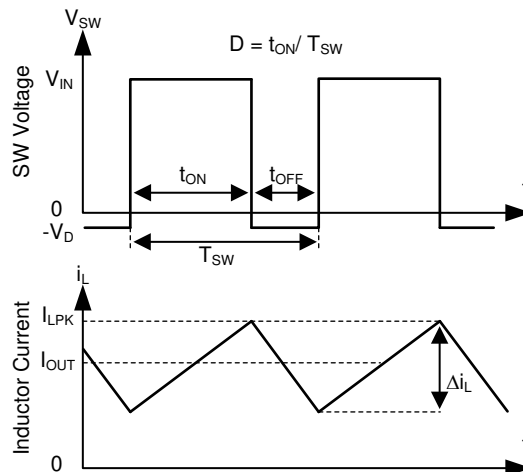

Figure 10-1. SW Node and Inductor Current Waveforms in Continuous Conduction Mode (CCM)
The following operating description of the TPS25830-Q1, TPS25831-Q1 will refer to the *Functional Block Diagram* and to the waveforms in *Figure 10-1*. TPS2583x-Q1 is a step-down synchronous buck regulator with integrated high-side (HS) and low-side (LS) switches (synchronous rectifier). The TPS2583x-Q1 supplies a regulated output voltage by turning on the HS and LS NMOS switches with controlled duty cycle. During high-side switch ON time, the SW pin voltage swings up to approximately V_{IN} , and the inductor current i_L increase with linear slope $(V_{IN} - V_{OUT}) / L$. When the HS switch is turned off by the control logic, the LS switch is turned on after an anti-shoot-through dead time. Inductor current discharges through the LS switch with a slope of $-V_{OUT} / L$. The control parameter of a buck converter is defined as Duty Cycle $D = t_{ON} / T_{SW}$, where t_{ON} is the high-side switch ON time and T_{SW} is the switching period. The regulator control loop maintains a constant output voltage by adjusting the duty cycle D . In an ideal buck converter, where losses are ignored, D is proportional to the output voltage and inversely proportional to the input voltage: $D = V_{OUT} / V_{IN}$.
The TPS2583x-Q1 is internally compensated as shown in Figure 10-1. The internal compensation is designed such that the loop response is stable over the specified operating frequency and output voltage range. The TPS2583x-Q1 is optimized for transient response over the range $300 \text{ kHz} \leq f_{sw} \leq 2300 \text{ kHz}$.